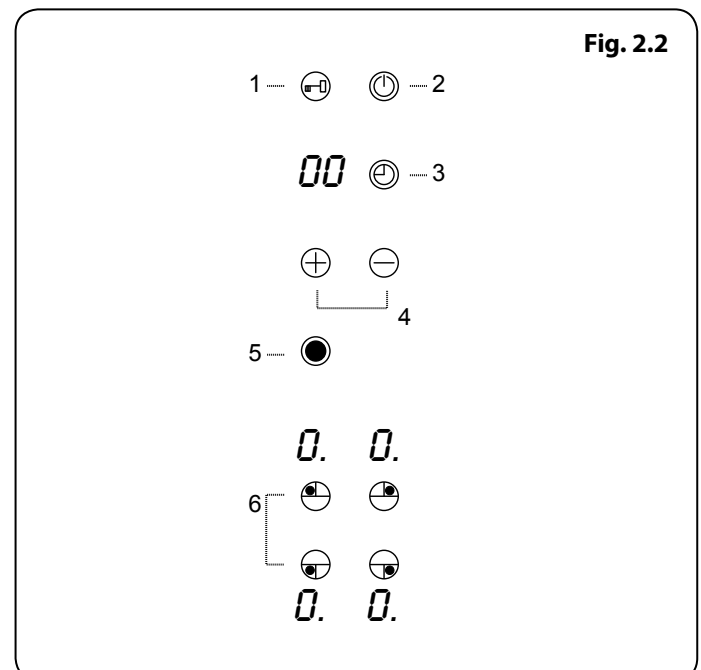

Fig. 2.2
Each zone is controlled via the touch sensitive controls with diode light and an audible signal when operated (**Fig. 2.2**).
1. Zone 1 is a dual cooking zone. Switch on the hob and press the Dual cooking button (5) **Fig. 2.2**. The external ring will activate.